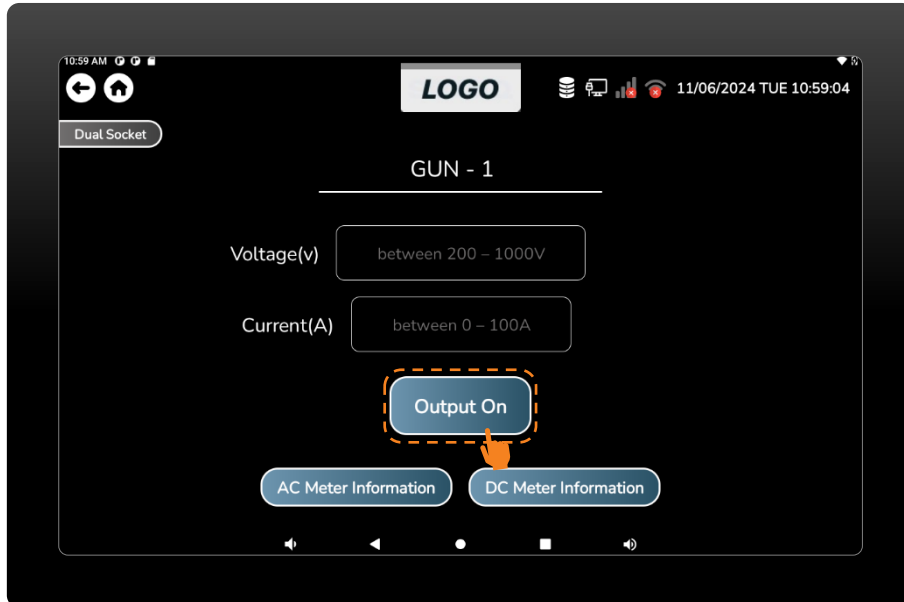

Figure 23 Press the output ON to test GUN-1.
- This is the GUN-1 screen, where the user can test set the voltage and current within the prescribed range and then press the output on button, that will provide the charging output accordingly. (Figure 23)